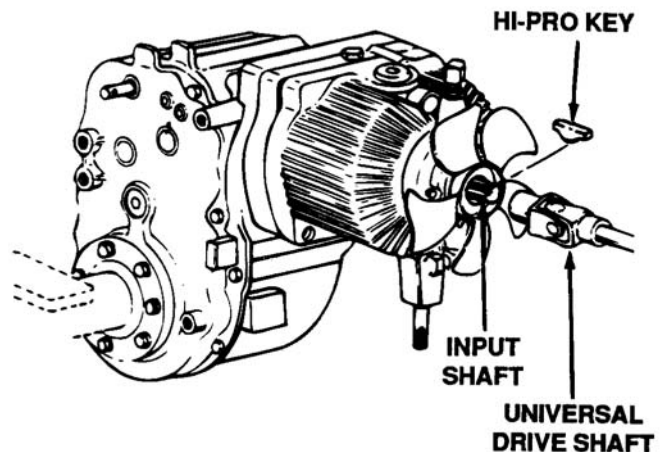

Figure 7-12. Drive Shaft Removal
2. Slide the drive shaft assembly forward as far as it will go. The rear universal joint can be removed from the input shaft of the hydrostatic transmission. See Figure 7-12.